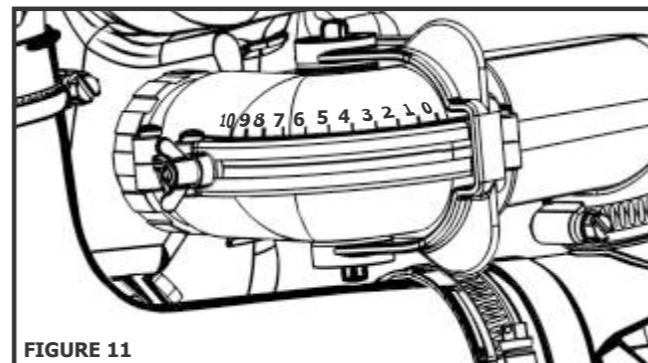

FIGURE 11
b) Doser Red Lever: move this lever to the regulation position (1 to 10) to adjust the flow rate (grams per minute) desired for the application (Figure 11);